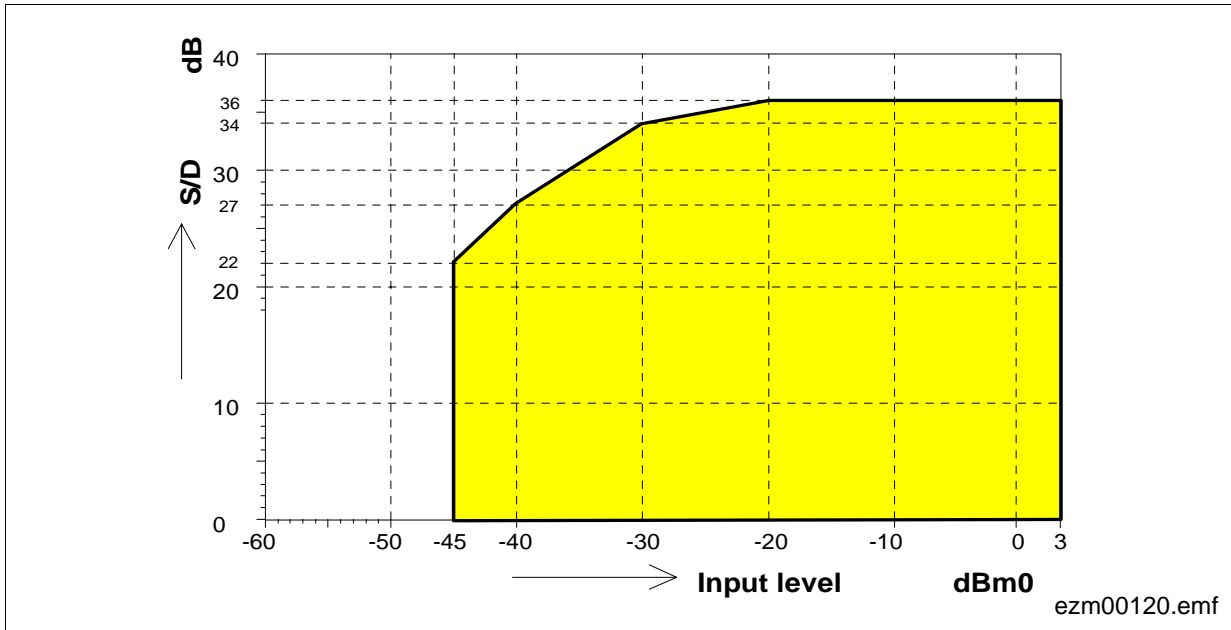

**Figure 87 Out-of-Band Signals at Analog Input (Transmit)**
**Out-of-Band Signals at Analog Input (Transmit) (see Figure 87)**